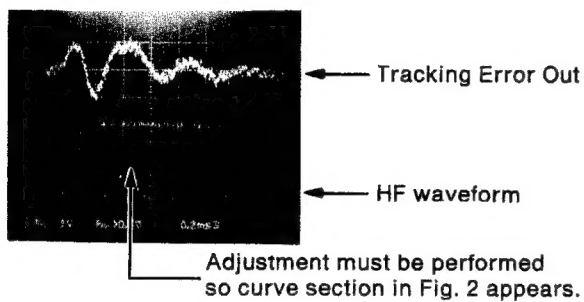

Fig. 2
4. Push the POWER button to switch the power on and PLAY the first item on the test disc, and then push the PAUSE button. Now observe the waveforms for HF and TE with triggers applied from the THLD test terminal (TP52-6) pin. At this point, adjust the potentiometer (P56) so that a kick pulse waveform of about 1 to 1.3 tracks as shown in Fig. 2 below is obtained.